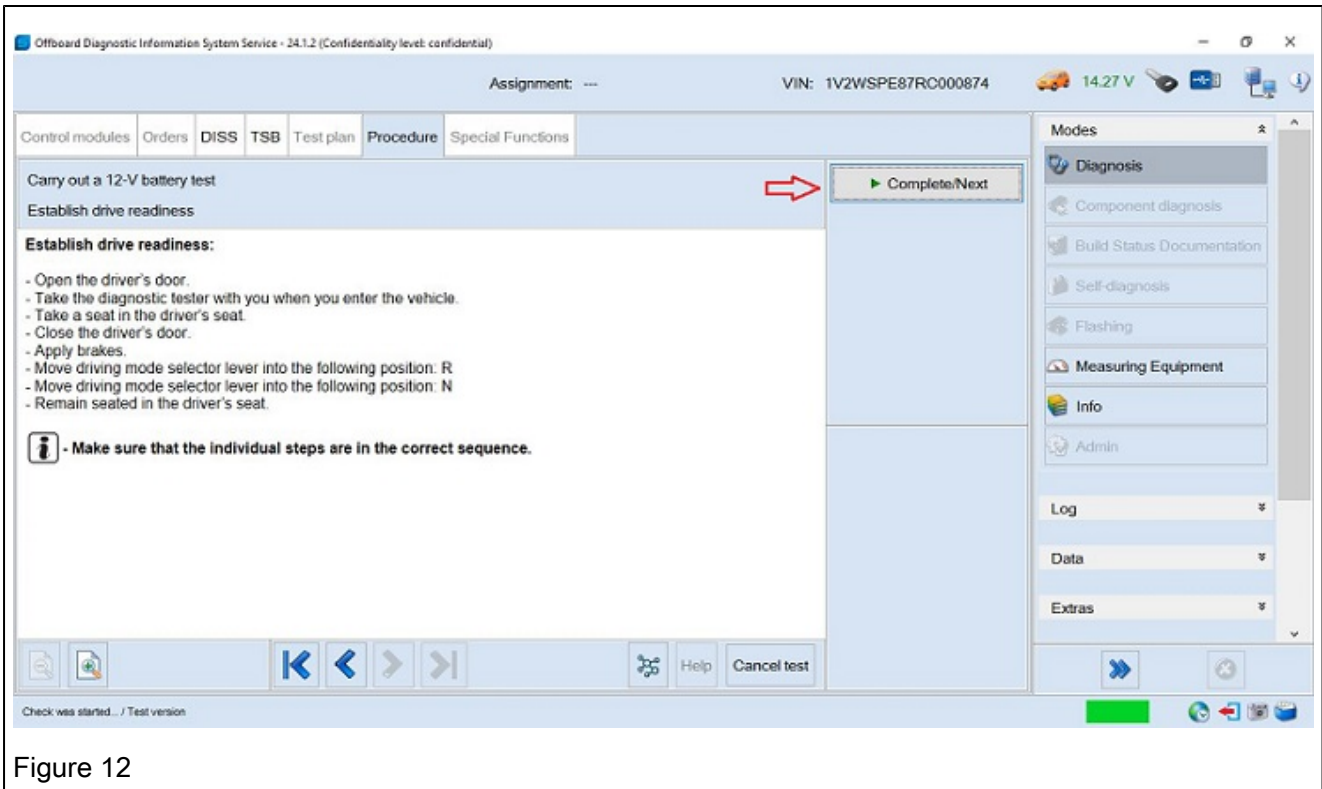

Figure 12
12. Follow the instruction provided, once complete, depress the Complete/Next button (Figure 12).